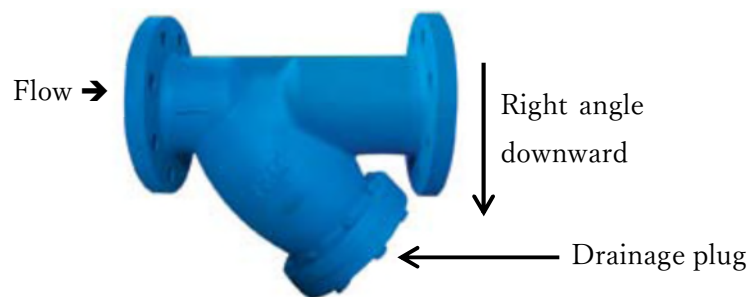

Figure 1
1. Hereby to confirm the installation of Y-type strainer is the best to be drainage plug side right downward (as per Figure 1). It will be convenience for the cleaning work in future.